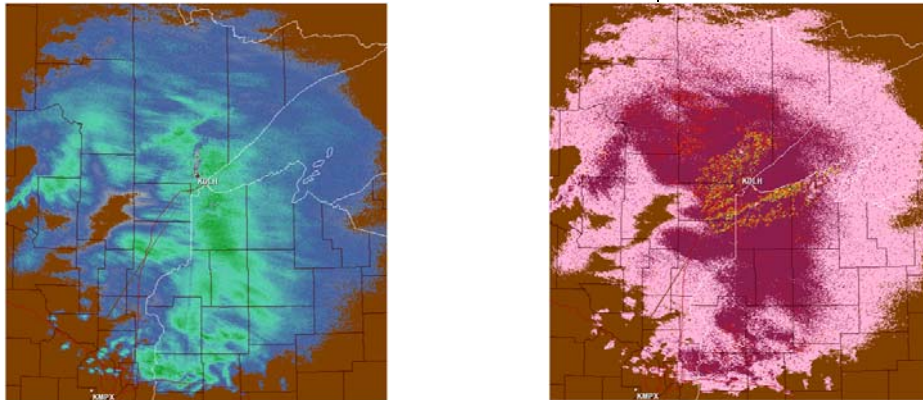

Figure 5. “Pink fringe” on CC in areas of weak signal.
accurate noise estimates than the legacy base data, Reflectivity (Z), Velocity (V), and Spectrum Width (SW). The “pink fringe” on CC in areas of weak signal is indicative of this reliance on accurate noise estimates (Figure 5).